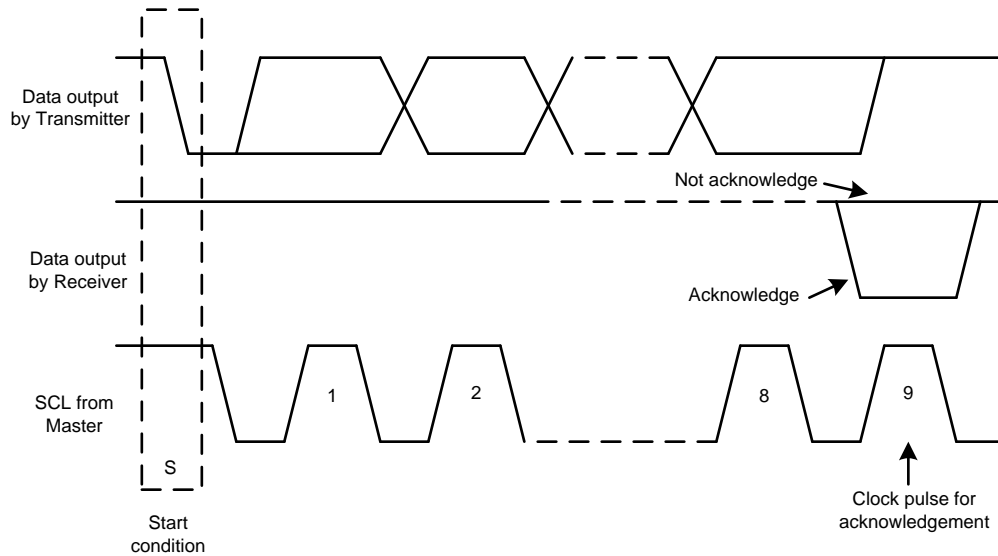

Figure 56. Acknowledge and Not Acknowledge on the I²C™ Bus
Other than specific timing signals, the I²C™ interface works with serial bytes. At the end of each byte, a ninth clock cycle generates and detects an acknowledge signal. Acknowledge is when the SDA line is pulled low during the high period of the ninth clock cycle. A not-acknowledge is when the SDA line is left high during the high period of the ninth clock cycle as shown in Figure 56.
2. The master then generates the SCL pulses, and transmits the 7-bit address and the read/write direction bit (R/W) on the SDA line. During all transmissions, the master ensures that data is valid. A valid data condition requires the SDA line to be stable during the entire high period of the clock pulse, as shown in Figure 58. All devices recognize the address sent by the master and compare it to their internal fixed addresses. Only the slave device with a matching address generates an acknowledge by pulling the SDA line low during the entire high period of the 9th SCL cycle, as shown in Figure 56 by pulling the SDA line low during the entire high period of the 9th SCL cycle. Upon detecting this acknowledge, the master knows the communication link with a slave has been established.